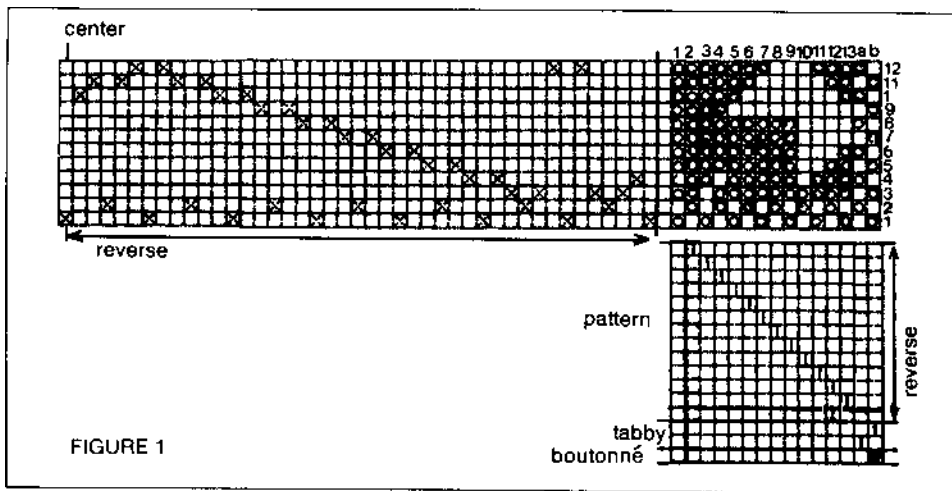

FIGURE 1
**Threading, tie-up and treadling:** See Fig. 1. Alternate a tabby pick and a pattern pick. For the pattern picks, alternate a blue pick and a green pick. Repeat each pattern treadle shown in Fig. 1 three times.